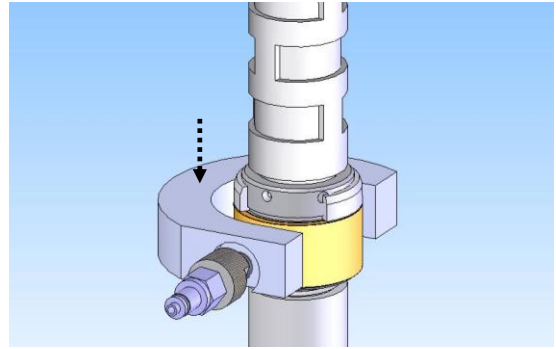

Figure 7: Slide sleeve and injection assembly toward the cable end to close the valve and re-insert the retaining ring.
- k. Re-insert the retaining ring above the injection adapter ensuring that it becomes fully seated in the groove (Figure 7).